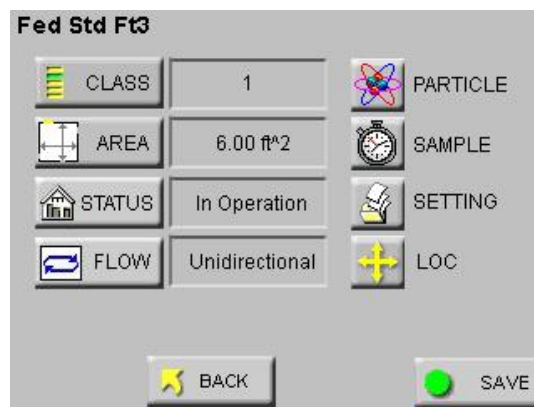

Figure 6-89 Report Setup Screen
- Press the SETUP button; the Report Setup screen displays as shown in Figure 6-89.